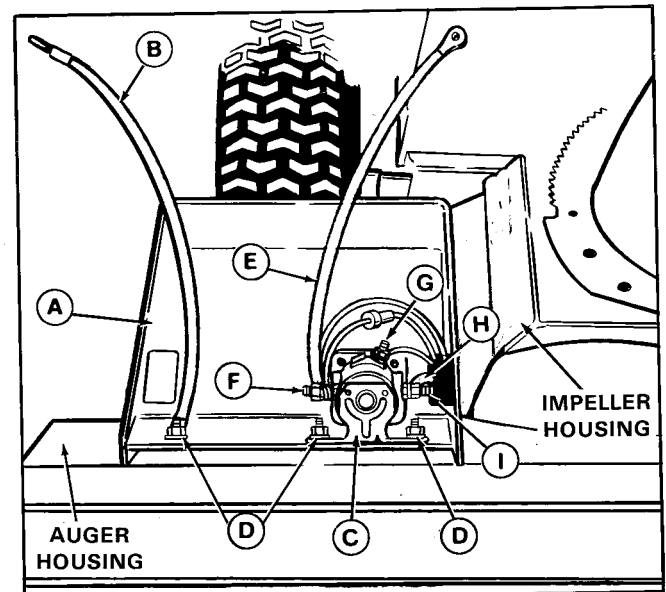

Figure 3. Battery Box
6. Three 17/64 inch (6.7 mm) holes must be drilled in the snowthrower housing to mount the battery box. See the note in figure 1 to determine which holes in battery box will be used. Position the battery box as shown in figure 3. The front, bottom surface must be flat against the auger housing. The battery box must be level. When the battery box is positioned, mark the three holes (in auger housing) then remove the battery box.
- f. Connect the purple wire to the small terminal (G, figure 3).
- g. Connect the remaining two wires and the positive cable (E) (10-1/4" long) to the solenoid battery terminal (F).
14. Connect the starter motor cable (H, figure 3) (25" long) to the solenoid starter terminal (I). Route the cable down thru hole in battery box.